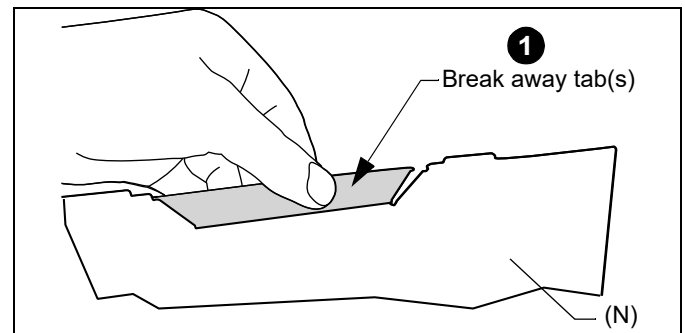

Figure 17
1. Break away the tab(s) on the cover (N) to allow wire exit from the PAC527L, and to meet ventilation needs of the components. (See Figure 17)